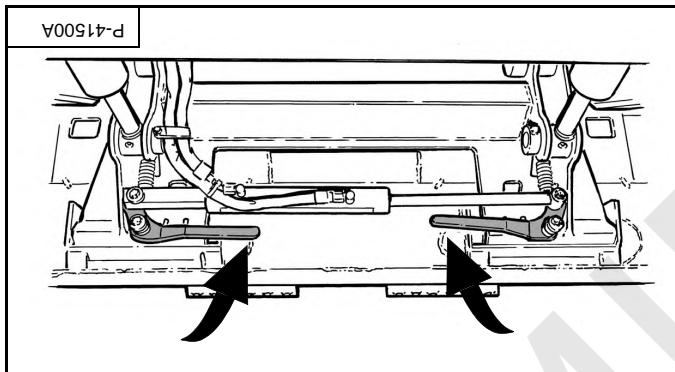
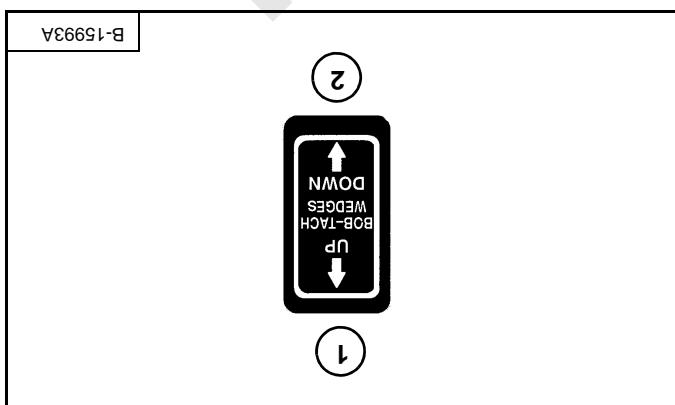

Figure 44
Figure 43
Push and hold the BOB-TACH "WEDGES DOWN" switch through the attachment mounting frame holes). (Item 2) [Figure 43] until the levers are fully engaged in the locked position [Figure 44] (wedges fully extended in [Figure 43] until the BOB-TACH "WEDGES DOWN" switch is pushed and held).
Push and hold the BOB-TACH "WEDGES UP" switch (item 1) [Figure 43] until the levers are fully raised (wedges fully raised). (Item 1) [Figure 43] until the levers are fully raised (wedges fully raised before installing the attachment). Pressurized hydraulic oil to keep the wedges attached during position and prevent wedges from slowly lower, the operator may need to reactivate the switch (BOB-TACH "WEDGES UP") to be sure both wedges are fully raised before installing the attachment. NOTE: The Power Bob-Tach system has continuous pressure applied to the wedges in the engaged position and prevent attachment disengagement. Because the wedges can slowly lower, the operator may need to reactivate the switch (BOB-TACH "WEDGES UP") to be sure both wedges are fully raised before installing the attachment.